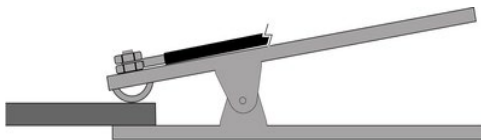

Fig. 3
2. Attach the ground clamp to the workpiece (Fig. 3). Connect the ground clamp directly to the workpiece and as close to the cutting area as possible to prevent the current from traveling along an unexpected path, creating an electric shock or fire hazard.